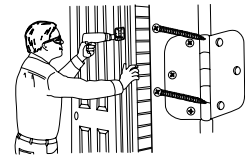

Fig. 10
10. Install four #10 x 2-1/4" wood screws through the hinge jamb and into the studs; two into the top hinge in the holes closest to the weatherstrip; and one each into the other hinges in the top hole closest to the weatherstrip (Fig. 10). You may need to remove the screws supplied with the hinges to insert these longer #10 x 2-1/4" screws.